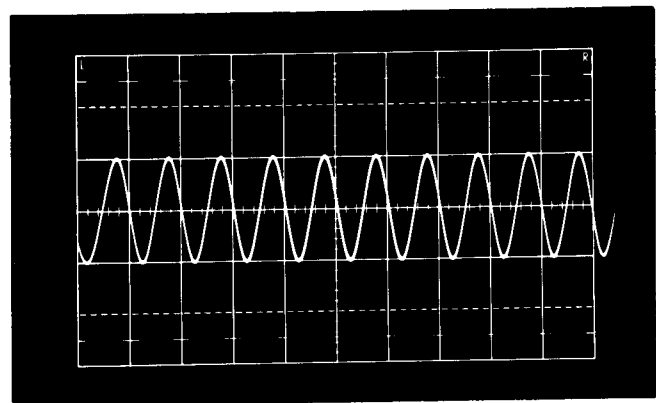

Fig. 7-40. Stable 10-MHz waveform obtained when checking internal plug-in triggering source. Sweep rate is 0.1 μ s/cm.
f. CHECK—The Triggering Level control can be adjusted to obtain a stable display (see Fig. 7-40).